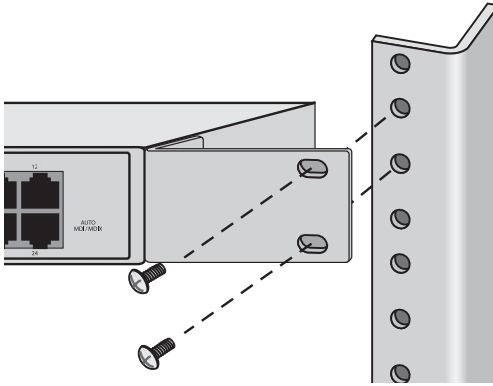

Figure 7 Installing the Switch to the Rack
- Secure the switch to the rack using 2 screws (not provided) for each side as shown in Figure 7.